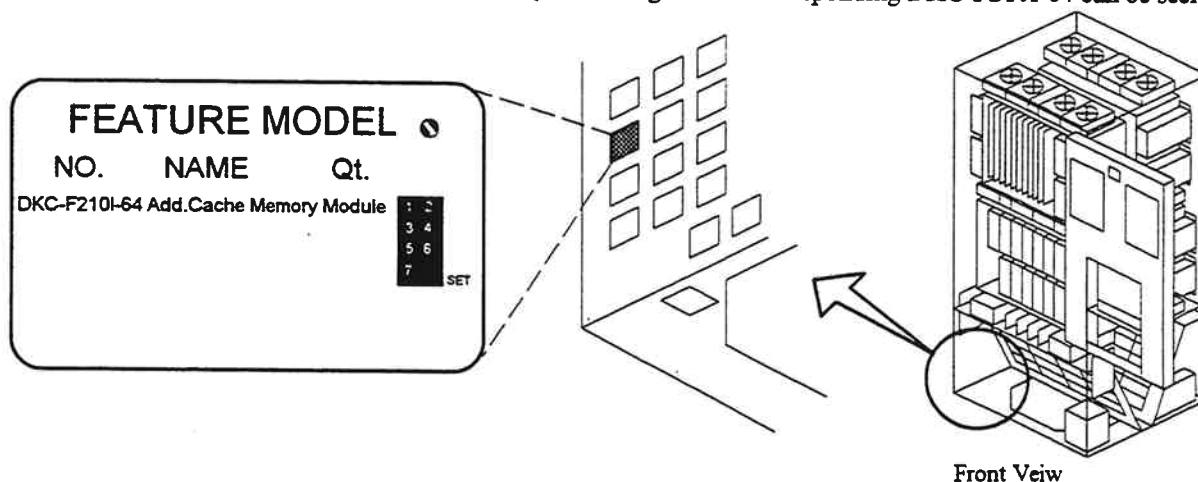

Fig. 3.3.7.9.2-4 Location of the Nameplate
- a. Refer to Fig. 3.3.7.9.2-4 and Table 3.3.7.9.2-5 to paint out unnecessary numbers and wipe off a necessary number painted previously so that the "Qt." marking for the corresponding DKC-F210I-64 can be seen.